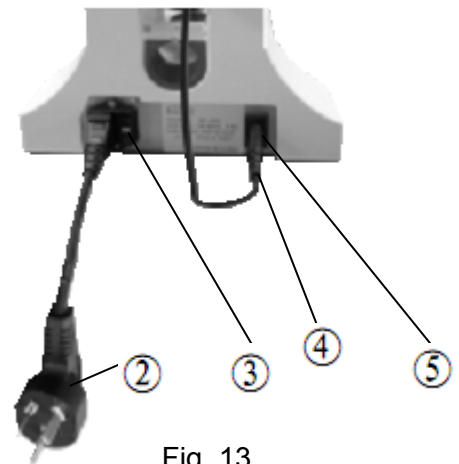

Fig .13
2. Connect the plug④ of the illumination column firmly to its jack⑤ on the rear of the microscope.(Fig.13)
3. Connect one end of the power cord② into its connector ③ on the rear of the microscope.(Fig.13)